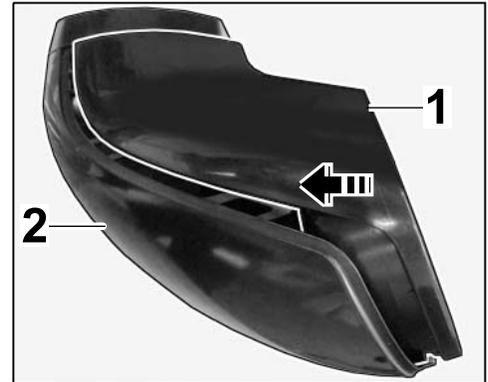

Figure 15
- 4.6.1 Position housing frame ⇒ *Figure 15-2-* and upper part of housing ⇒ *Figure 15-1-* with respect to each other and press them together ⇒ *Figure 15 -arrow-* until the retaining lugs engage.